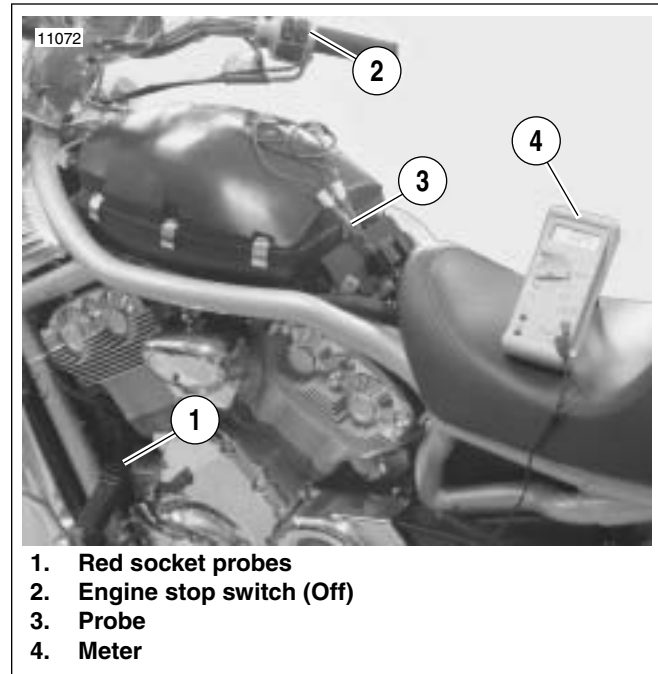

Figure 1-8. Current Draw Test (typical)
See Figure 1-8. Check starter current draw with an induction ammeter before disconnecting battery. Proceed as follows:
5. See Figure 1-8. Clamp induction ammeter over positive starter cable to solenoid.
See Figure 1-8. A DC current probe may be used if an induction ammeter is not available.